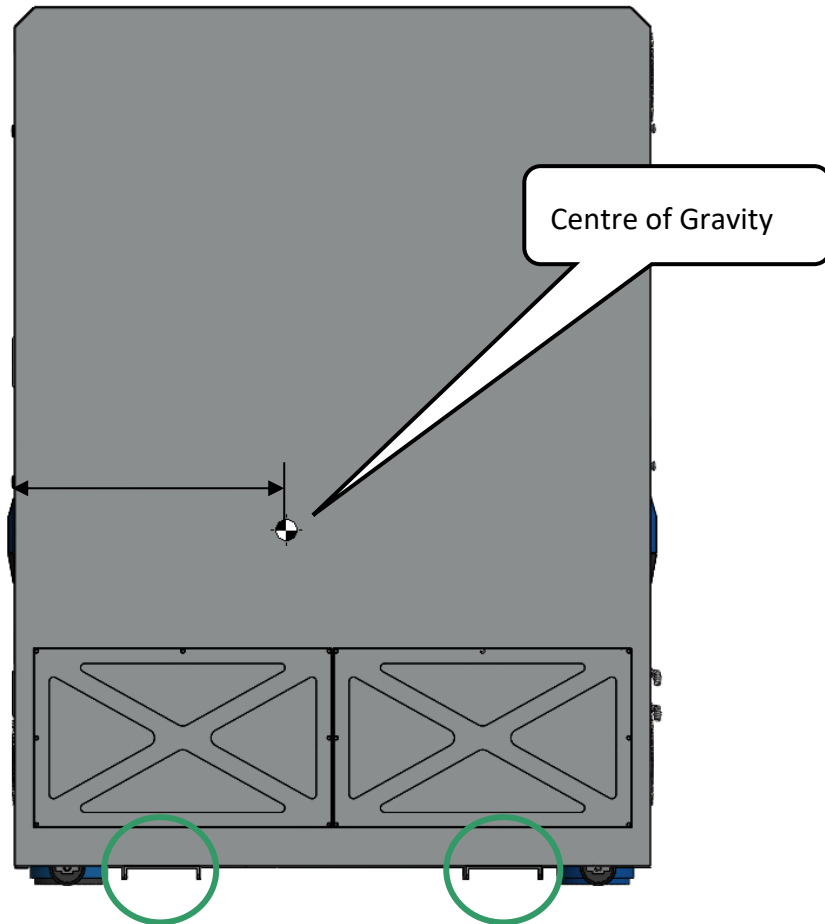

Figure 4 - Fork Lift Zones
- ❖ Note the centre of gravity shown in Figure 4 - Fork Lift Zones. Consider the risk of the machine tipping over.
- ❖ Move the forks of the lift truck or fork lift as far as possible under the machine (see Figure 4).
Do NOT lift the machine using the 16 mm holes in the side of the granite base as this will cause severe damage. Please note the centre of gravity in *Figure 4 and 5*.
- ❖ Move the forks of the lift truck or fork lift as far as possible under the machine (see *Figure 4*)